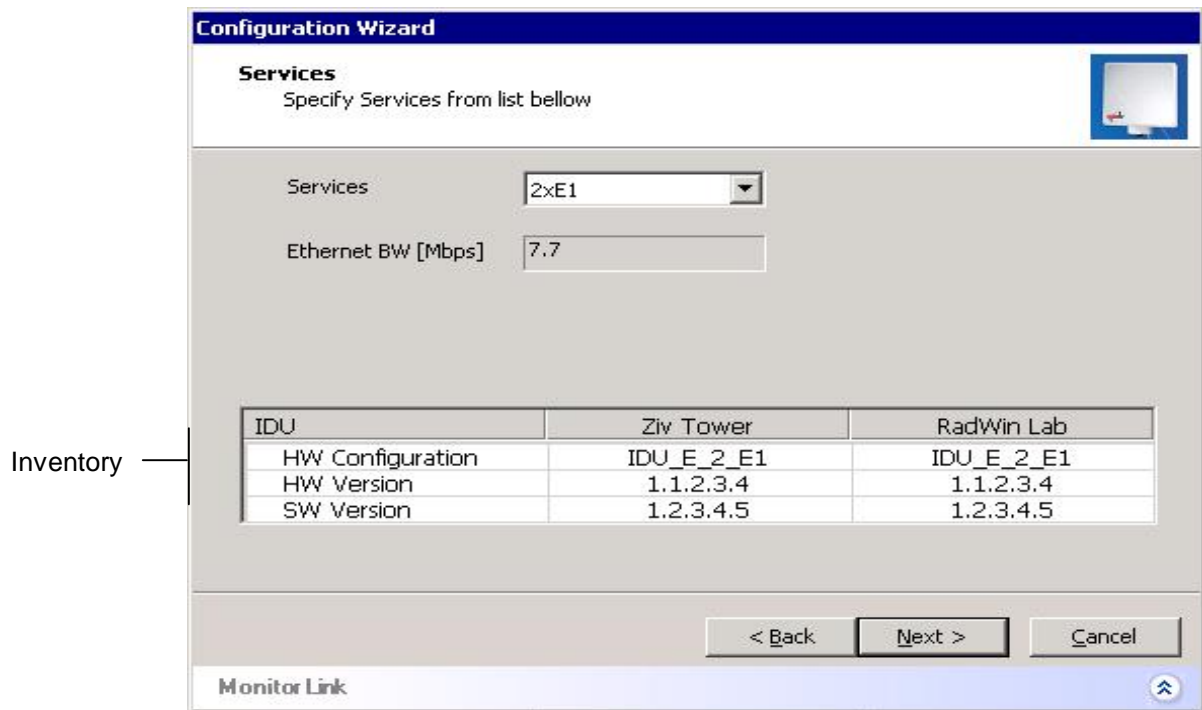
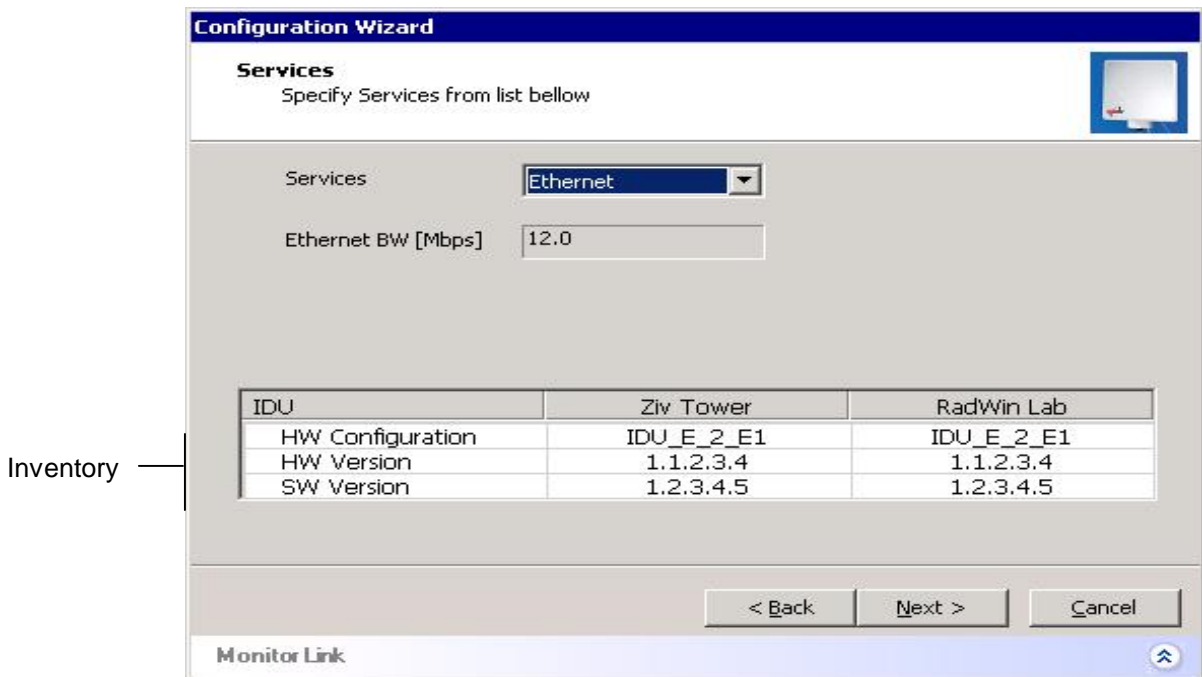

Figure 3-5. Service Parameters Dialog Box, E1 Interface
Figure 3-6. Service Parameters Dialog Box, Ethernet only Interface
The Service Parameters dialog box appears (see Figure 3-5 and Figure 3-6).
- § E1/T1 – Select the E1/T1 field, if you intend to transmit E1/T1 data and Ethernet data (see Figure 3-5).
- § Select the Ethernet field, if you intend to transmit Ethernet data only (see Figure 3-6).